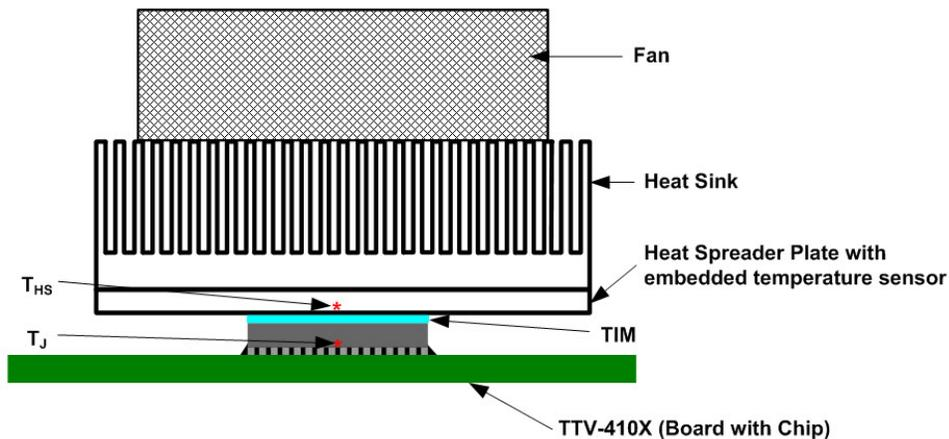

Figure 3-3
- 1) Mount the heat sink solution, including the TIM, on the TTV-410X unit, as shown in Figure 3-3.